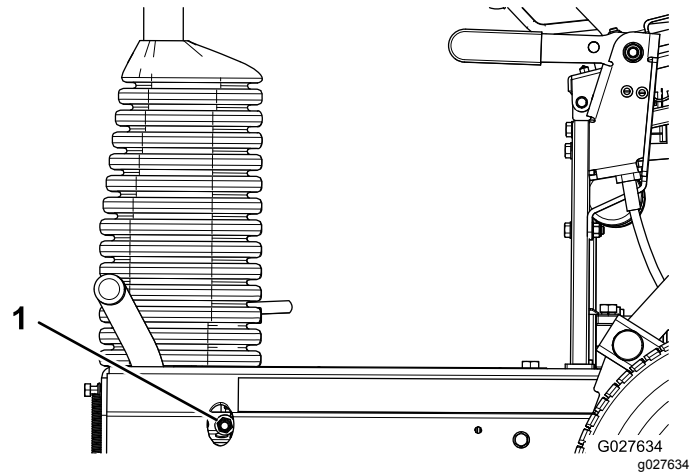

Figure 37
- To increase the brake force, tighten the brake locknut (Figure 37).
- To decrease the brake force, loosen the brake locknut (Figure 37).